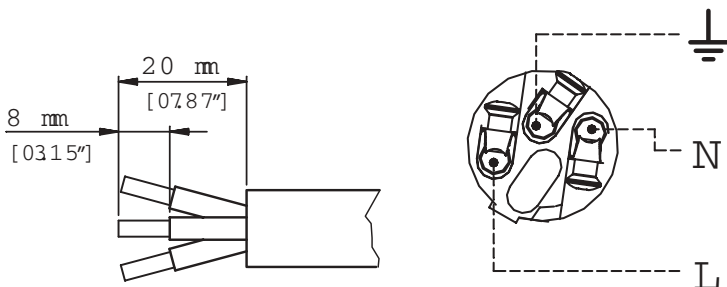

Figure 6: Cable connector wiring
2. Prepare the power cable and use a screwdriver to clamp the wires in the appropriate terminals in the insert as shown in Figure 6.